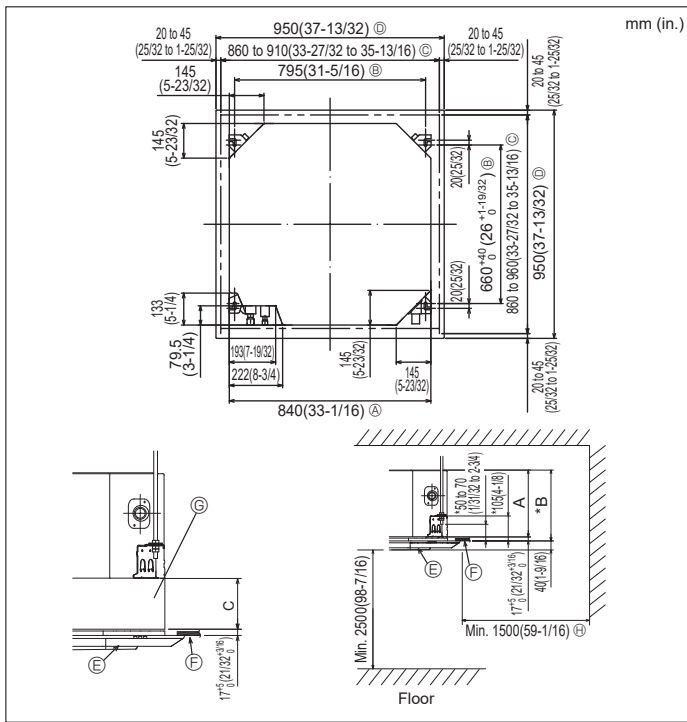

Fig. 3-2
3.2. Ceiling openings and suspension bolt installation locations (Fig. 3-2)
- The dimensions of ceiling opening can be regulated within the range shown in Fig. 3-2; so center the main unit against the opening of ceiling, ensuring that the respective opposite sides on all sides of the clearance between them becomes identical.